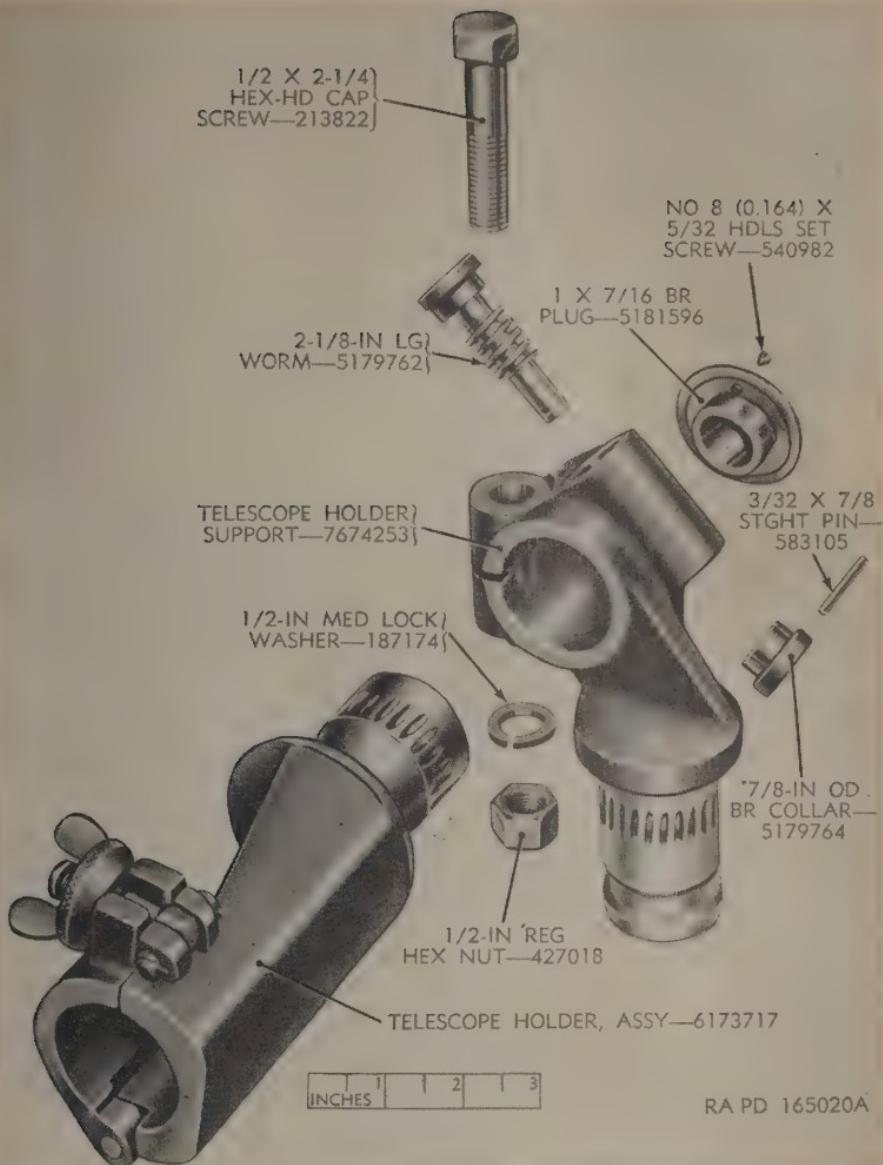

Figure 46. Telescope mount M32—telescope holder support assembly—exploded view.
115. Disassembly of the Telescope Holder Support Assembly (fig. 46)
a. Properly support the collar on the end of the worm in the telescope holder support. Press or drive out the straight pin (fig. 46) that secures the collar to the worm. Pull the collar from the worm. Unscrew the worm from the telescope holder support.
(fig. 46)